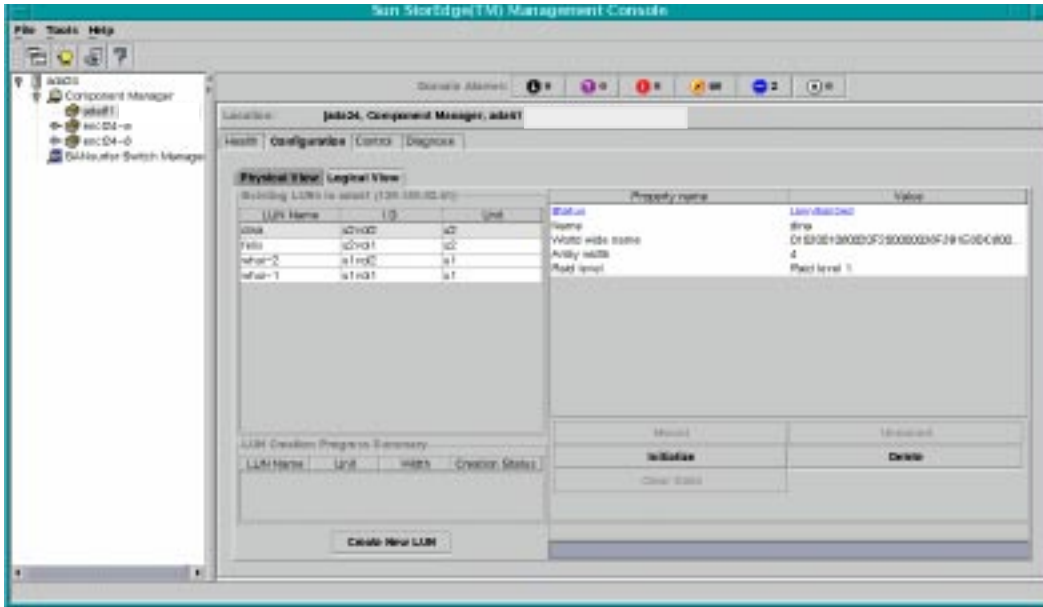

FIGURE 3-16 Active LUN Initialization Button
2. Start the initialization process by clicking the Initialize button as shown in FIGURE 3-16.